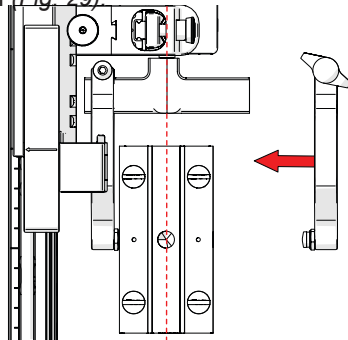

Fig. 30 - Remove outer arm
6. Align the middle of the wedge with the centre of the yoke (Fig. 30).